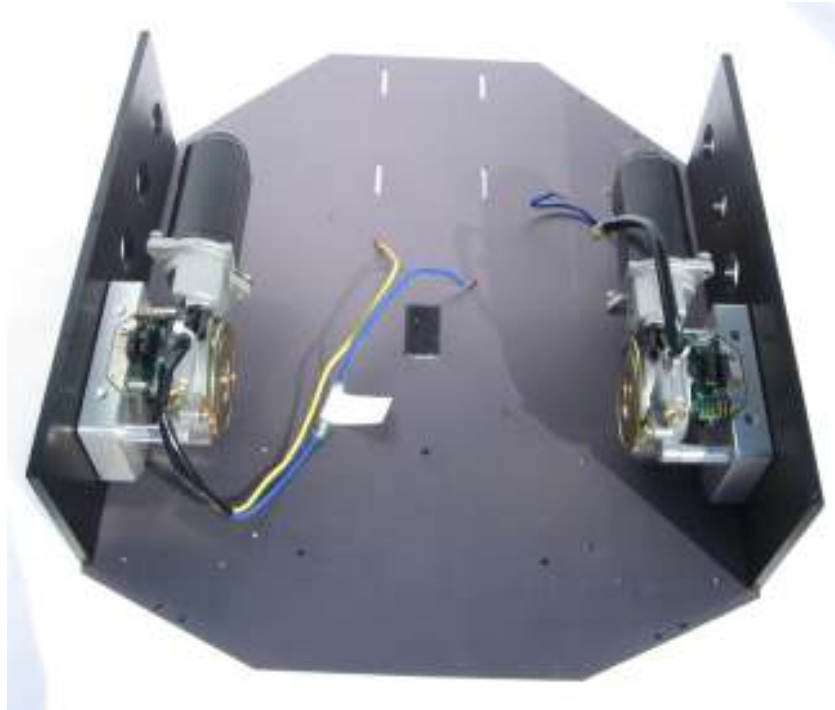

Figure 3
- Using (8) #4 1/4" screws, install each of the completed motor mount assemblies to the Bottom Panel as shown in figure 3.